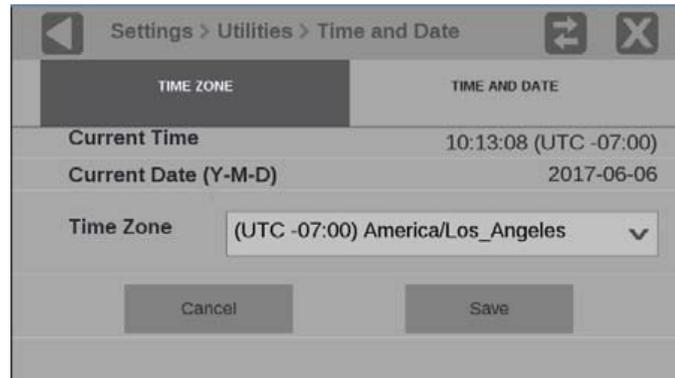

Figure 70: Time Zone submenu
4. Select **TIME ZONE** to open the submenu, shown in Figure 70.